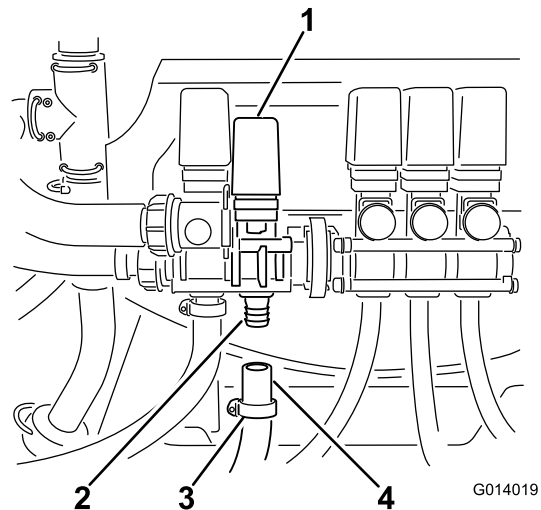

Figure 28
3. Slide a loosened hose clamp over the open end of the hose (Figure 28).